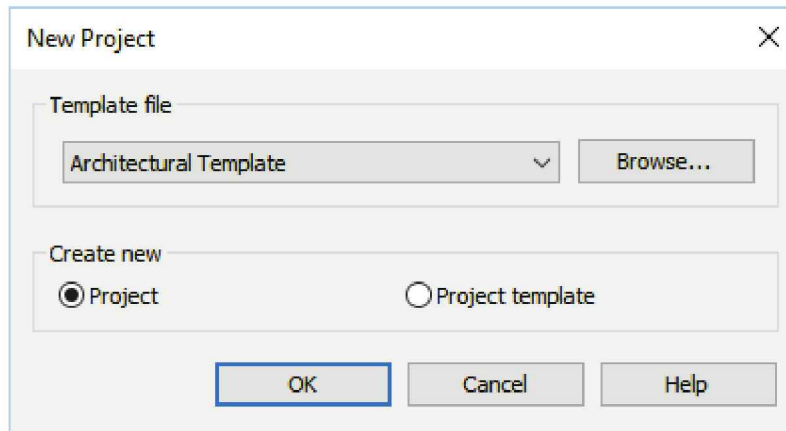

FIGURE 1-4.1 New Project dialog box
After clicking *New* → *Project* you will get the *New Project* dialog box (Figure 1-4.1).
2. Select the **Architectural Template** *template file*. Leave *Create new* set to **Project** (Figure 1-4.1).